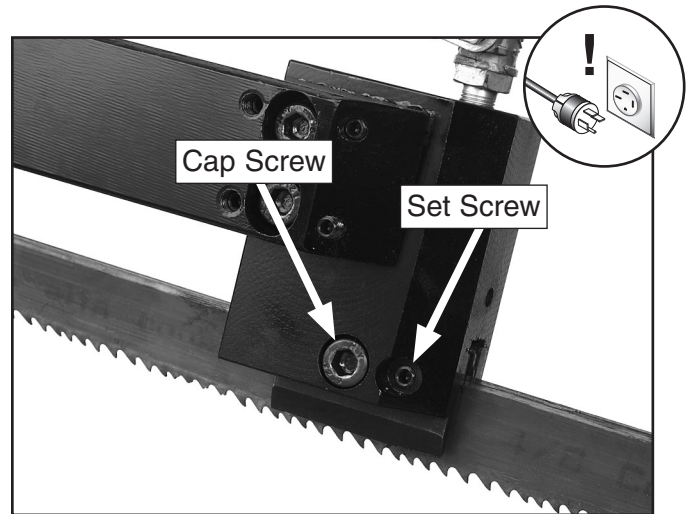

Figure 54. Blade guide.
5. Loosen the blade guide cap screw that holds the blade guide in position (**Figure 54**).